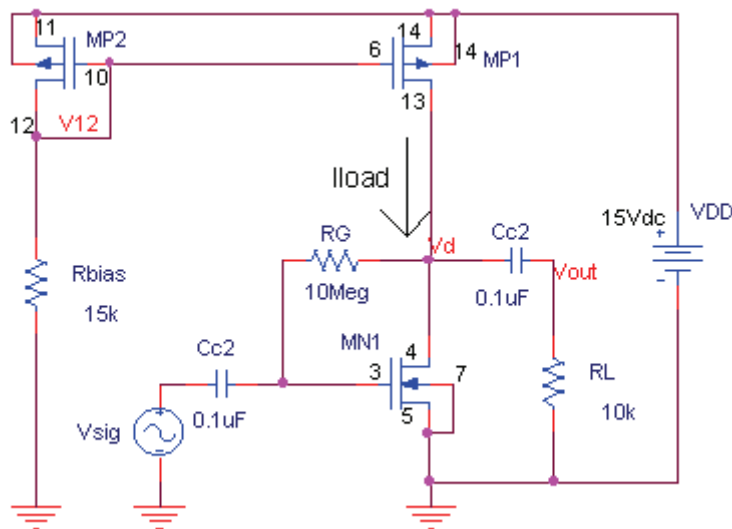

Figure 7: Common-Source amplifier with active load.
By replacing the current source by the current mirror, we obtain the complete amplifier with active load as shown in Figure 7. We have also added a load resistor  $R_L$  and a coupling capacitor  $C_{C2}$ .
- Build the circuit of Figure 7. For now do not include the load resistor  $R_L$  and a coupling capacitor  $C_{C2}$ . The pins of the transistor of the CD4007 array are given in the schematic. Use short jumpers on your protoboard to connect the pins of the transistors.